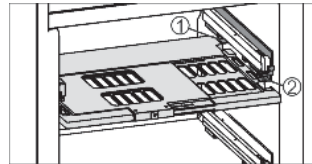

Fig. 13
- ▶ To insert the humidity control plate: Insert the guide pieces of the plate into the rear retainer *Fig. 13 (1)* from below, then snap the plate into the retainer *Fig. 13 (2)* in the front.